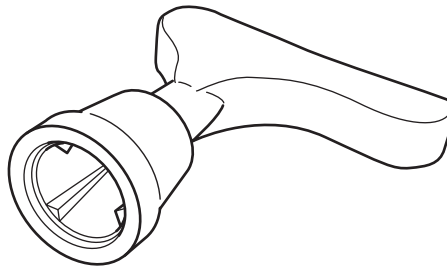

Fig. 4
- (d) Fig. 4 shows a specially shaped tool for inserting and removing the studs.